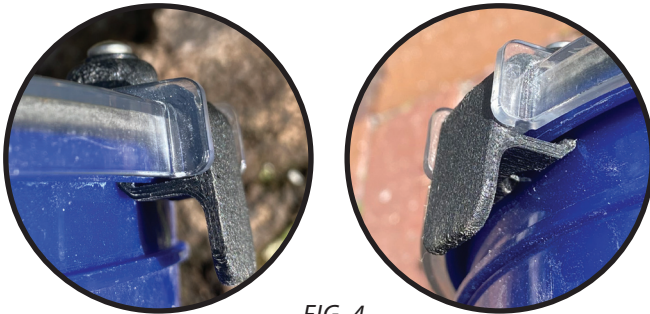

FIG. 4
- a. Lift up on both the latches simultaneously and push the Low-Pro firmly down onto the bucket so that the gasket is compressed. Then push the latches inward and ensure that they are closed under the lip of the bucket [FIG. 4]. The latch screw can be adjusted to better tighten the latches to the lip of the bucket.